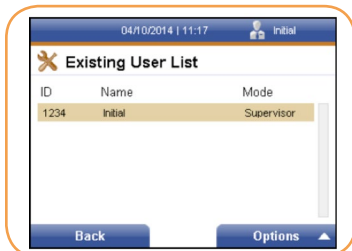

FIGURE 32
4. Then press the right soft key to accept the changes made, or the left soft key to discard any changes. The *Existing User List* screen is displayed (Figure 32).